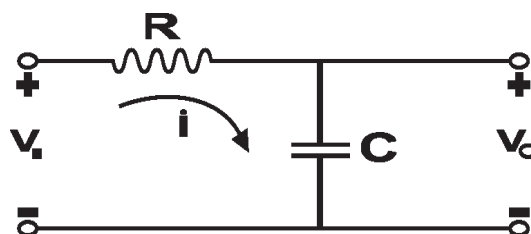

Fig. No. 1
- c) Derive transfer function of the given electrical circuit Figure No. 1